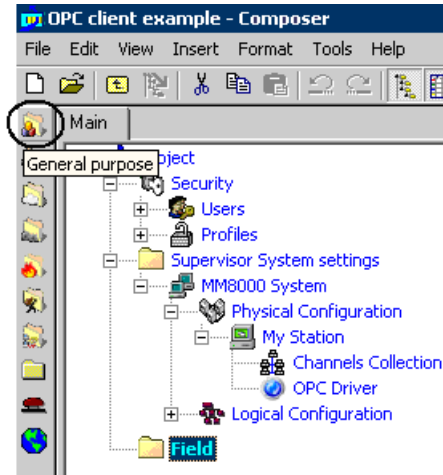
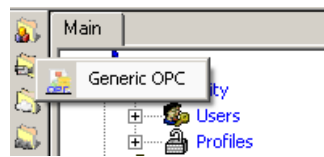

Fig 2 'General purpose' icon
Fig 3 Adding a generic OPC subsystem
- In the menu General purpose (Fig 2), select the 'Generic OPC' subsystem to add the new node (Fig 3).